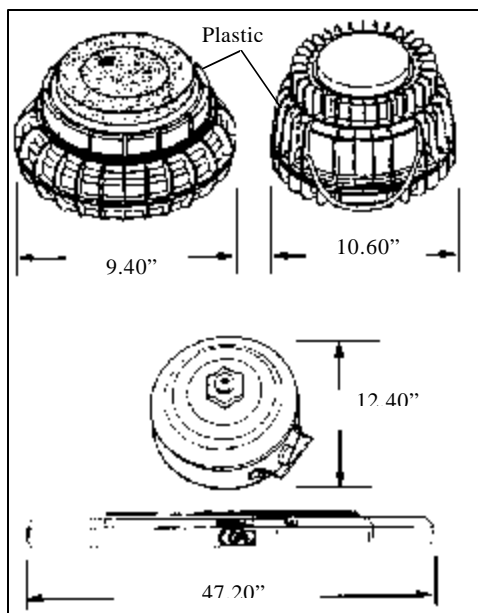
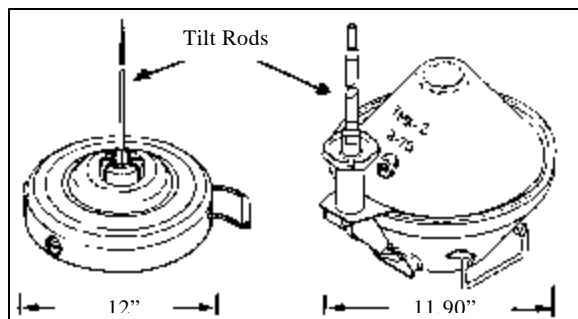

Figure 67. AT pressure-fuzed mines.
Figure 68. AT tilt-rod fuzed mines.
- (b) AT mines are much larger than APERS mines and usually have pressure or tilt-rod fuzing. However, some AT mines also have magnetic-sensitive fuzing. Some of the more modern AT mines have plastic bodies, which make them hard to detect with a metallic mine detector. The variety of AT mines shown in Figure 67 all function from direct pressure from a tank or vehicle. The mines shown in Figure 68 use a tilt-rod fuze that sticks out of the ground. When the rod is moved or pushed over, the mine blows up.